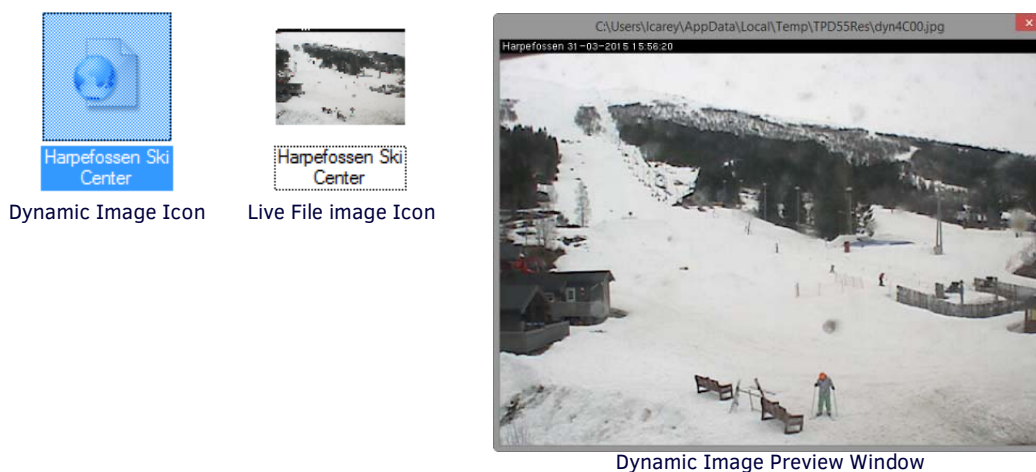

FIG. 33 Resource Manager (Dynamic Images tab) - Example Dynamic Image (icons and preview window)
6. Click **OK** to close the *Create Dynamic Image* dialog and add the new image to the Dynamic Images tab (FIG. 33):